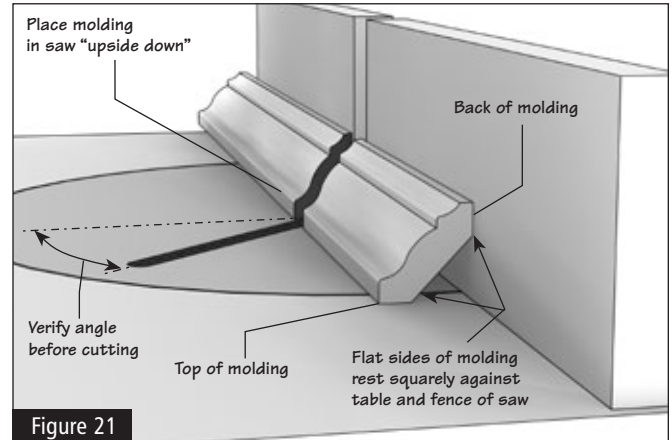

Figure 21
- 7.4** When trimming molding, keep in mind that the proper position for the molding in the miter box is upside down with the bottom edge resting against the fence. (Figure 21)